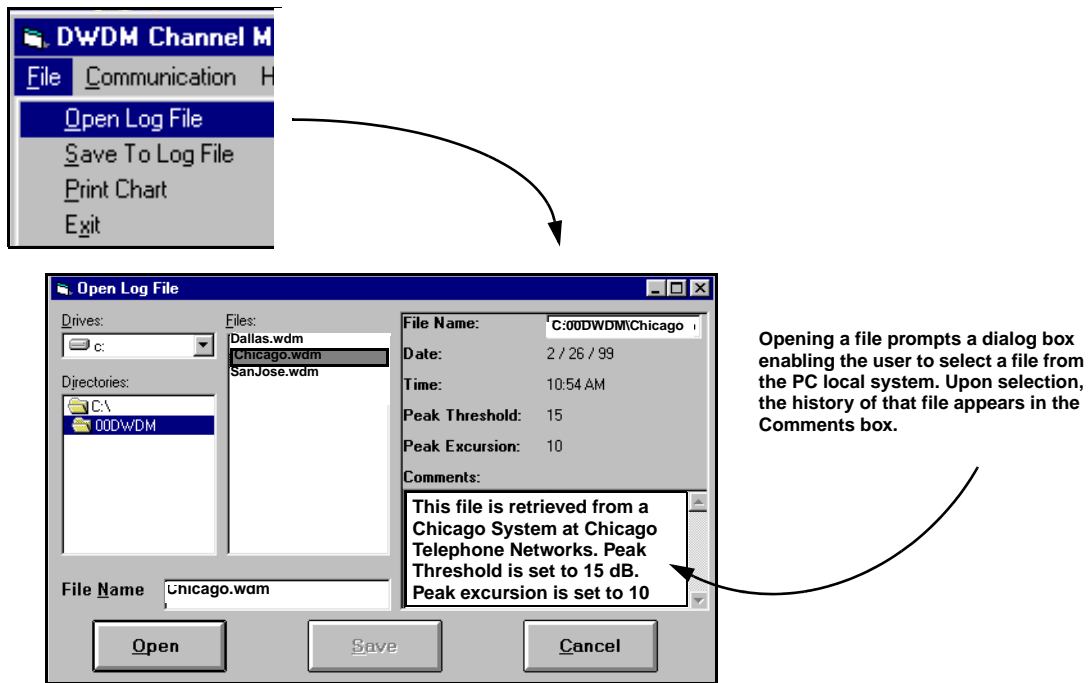

Figure 2-30. DWDM Channel Monitor Open Log File Dialog Box
- a. **Open Log File** — Displays a dialog box which allows the user to open a log file which was previously saved using the **Save To Log File** selection (see Figure 2-30). User can see a preview of the header information before opening the file. If accessed, stored data from the file is plotted on the Scan Mode tab in the Power vs. Wavelengths graph and Peak table.